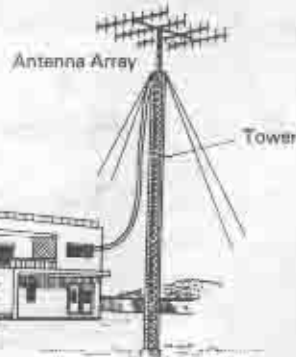

Fig. 1-3 Fixed Station Operation Installation
- **Power supply (Fig. 1-3 on page 8)**
- **Antenna (Fig. 1-3 on page 8)**